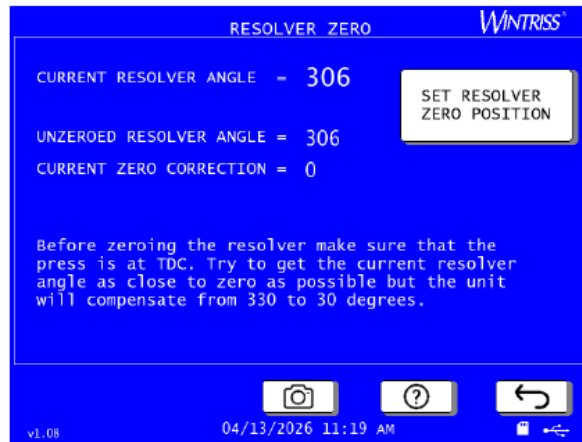

Figure 3-5, Resolver Zero Screen
4. Press RESOLVER ZERO. The Resolver Zero screen appears, Figure 3-5.